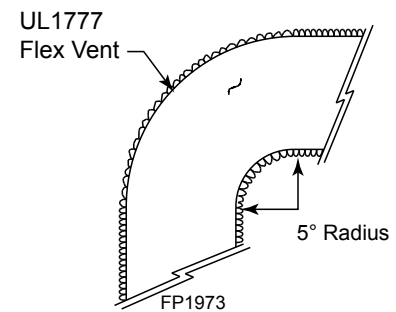

Figure 6.6 - Minimum Radius for Flex Vent Section
- Do not allow the flexible vent to bend in radius tighter than 5°. Figure 6.6